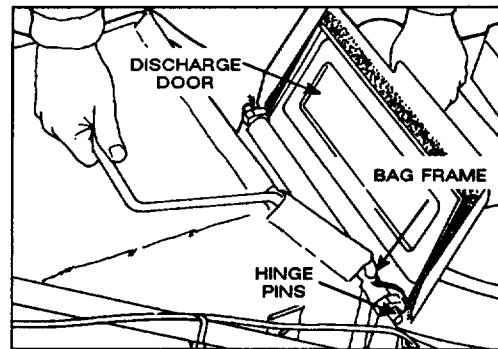

Figure 2
6. To install grass bag, raise discharge door and hook bag frame onto hinge pins (Fig. 2). Allow bag to rest on